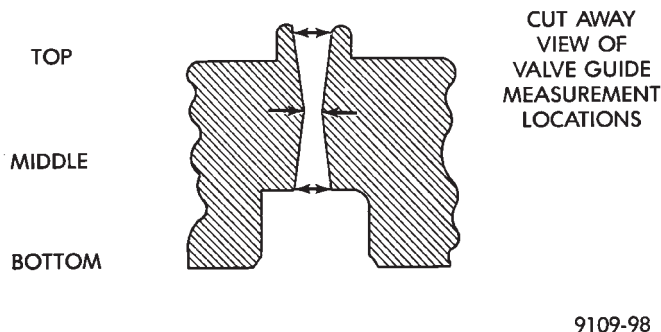

Fig. 38 Checking Wear on Valve Guide—Typical
(1) Remove carbon and varnish deposits from inside of valve guides with a reliable guide cleaner.
(2) Using a small hole gauge and a micrometer, measure valve guides in 3 places top, middle and bottom (Fig. 38). Refer to (Fig. 39) for specifications. Replace guides if they are not within specification.